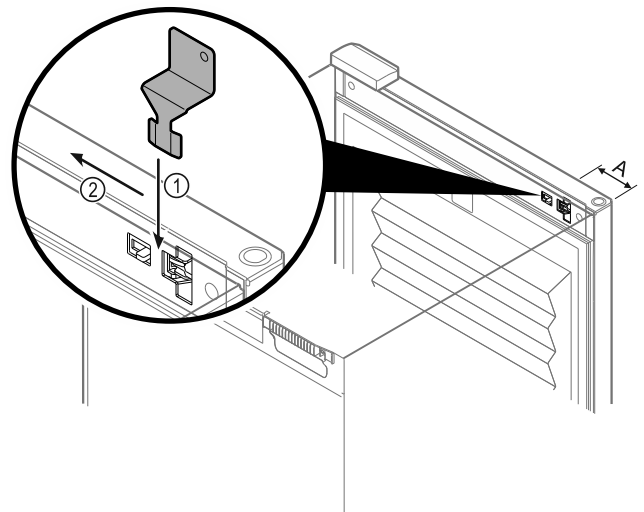

Fig. 230
- ▶ Insert the emergency release key in the specified position Fig. 230 (A) ≈ 100 mm (3 15/16 in).
- ▶ Insert the emergency release key Fig. 230 (1) from the top between the door and device body until it reaches the stop.
- ▶ Pull the emergency release key in the direction of the hinge. Fig. 230 (2)